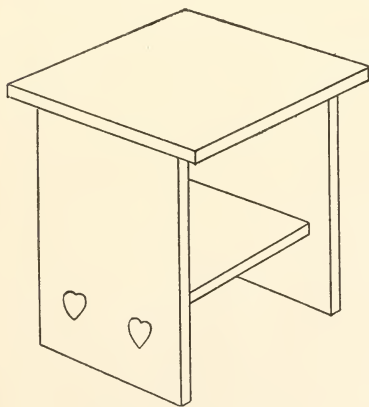

FIG. 270. — A Table.
**Tables** for the living-room, dining-room, bedroom, ball-room, and nursery of a doll-house may be patterned after the designs of Figs. 270 and 271.
The pieces necessary to make Fig. 270 are a top two inches square, two sides an inch and one-half wide by two and one-half inches high, and a shelf an inch and one-quarter square. Fasten the pieces together as in the illustration, placing the shelf between the side pieces an inch from the bottom.